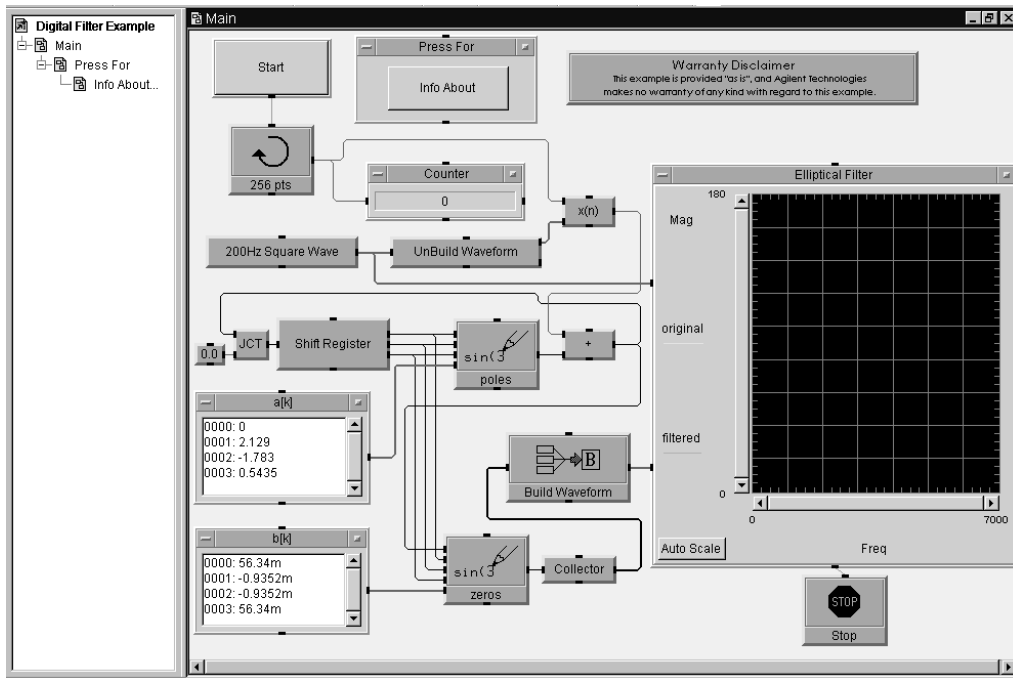

Figure 17.10. The digifilt.vee program
3. Double-click on the digifilt.vee icon. The program is shown in Figure 17.10.